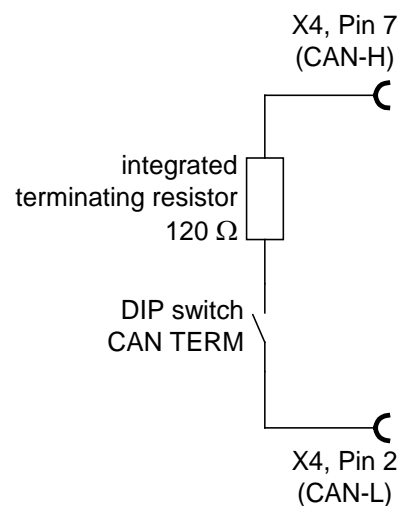

Figure 26: Integrated CAN terminating resistor
- ❖ A terminating resistor of $120\ \Omega \pm 5\%$ must be present on both ends of the CAN bus cable. The ARS 2300 FS servo positioning controller is equipped with an integrated terminating resistor that can be activated/deactivated via the DIP switch "CAN TERM" on the front panel (see *Figure 26*).